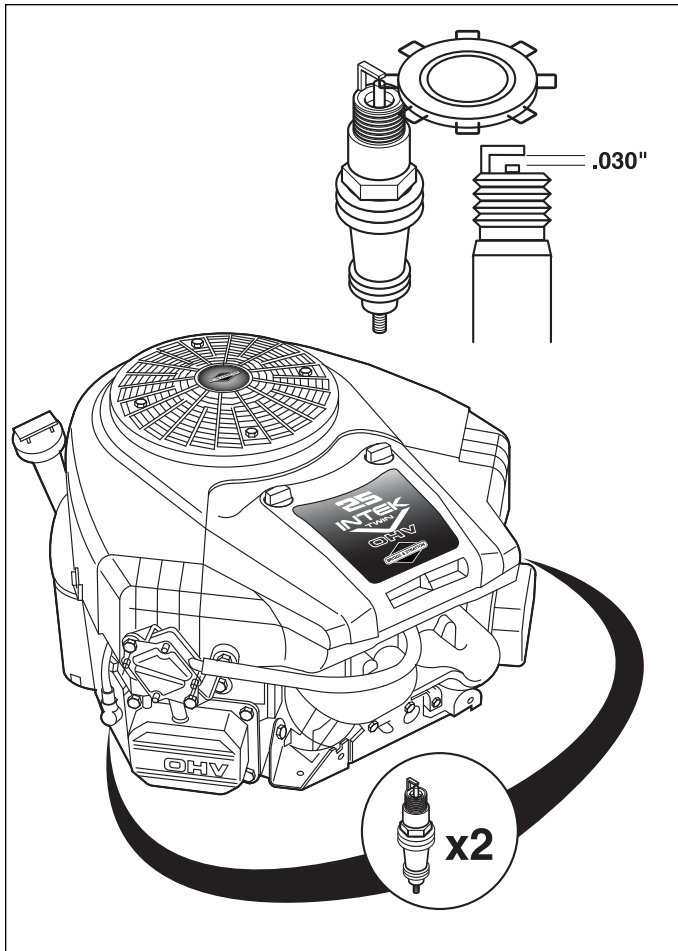

Figure 34. Spark Plug Gapping
2. Clean the area around the spark plug (see Figure 34 or 35).